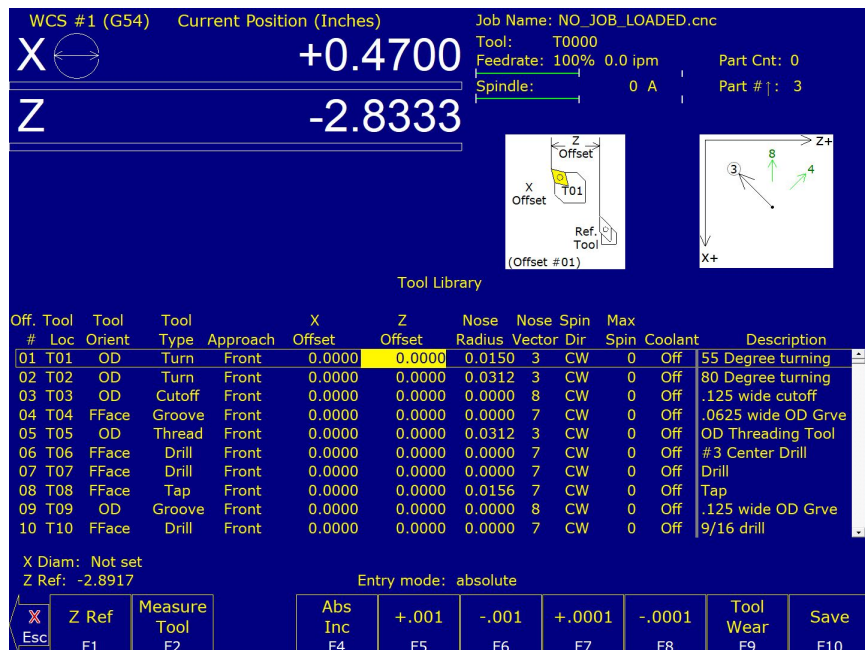

Figure 5.4: F2 – TOOL OFFSET menu with Z-offset value for the Offset # selected Note the addition of F1 – Z Ref in the bottom-left
3. Using your mouse cursor or touch screen, select the Z-offset Value for the Offset # of your reference tool number. For this example, we will be using Offset #1. When selected, the value will be highlighted in yellow and the **F1 – Z Ref** option will appear in the bottom-left corner. Your screen should look like Figure 5.4.